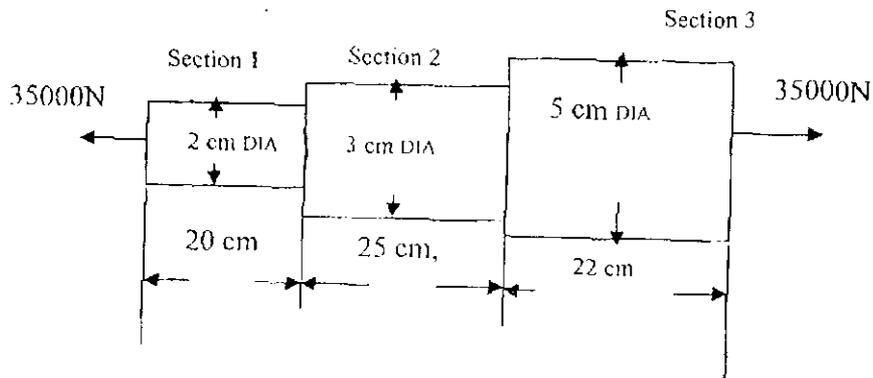

Fig. 11(b)
- (b) An axial pull of 35000 N is acting on a bar consisting of three lengths as shown in Fig. 11(b). If the Young's modulus =  $2.1 \times 10^5 \text{ N/mm}^2$ , determine